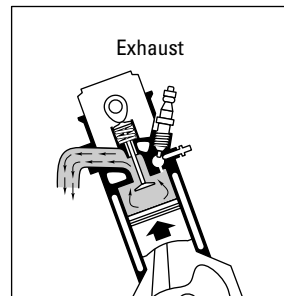

Figure 9-9: Exhaust stroke.
- ✔ **Stroke 4: Exhaust stroke (see Figure 9-9).** The exhaust valve opens as the piston rises and pushes the burned gases out of the cylinder.